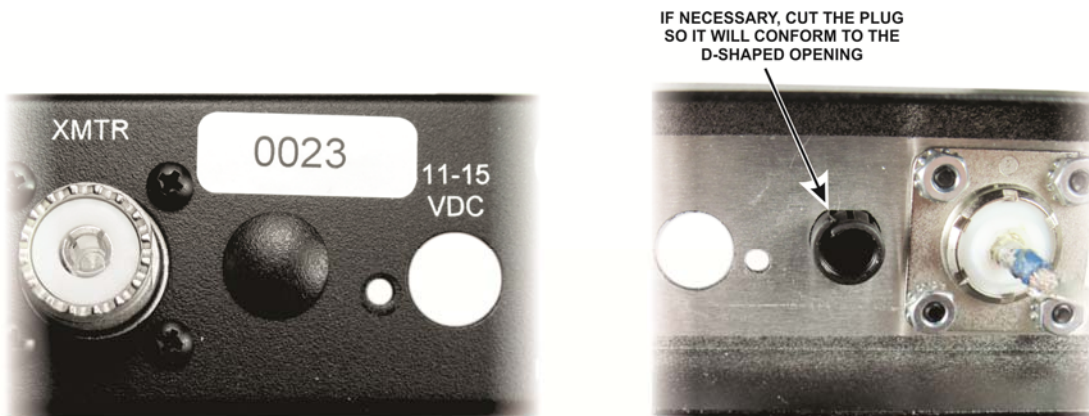

Figure 23. Installing the BNC Hole Cover.
□ Install the BNC hole cover in the opening next to the XMTR SO-239 connector as shown in Figure 23. Press the cover in until the ears on the plug lock it into place. This opening is “D” shaped. If needed, cut the plug section as shown to fit in the hole.